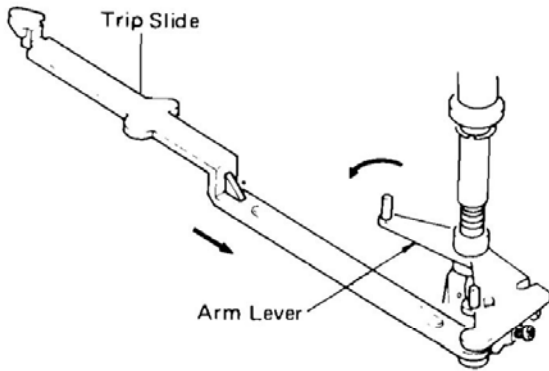

Fig. 6
- The tonearm is returned by the arm lever the end of which presses it as the main gear rotates. (Fig. 6)